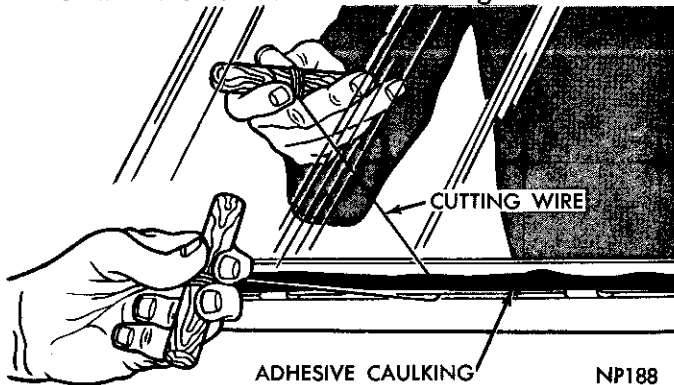

Fig. 3—Cutting Adhesive Caulking
(3) Secure one end of a two foot length of tempered steel wire (.028 gauge max.) to a wooden handle.
(4) Insert other end of wire through adhesive at lower corner of window and secure to another wooden handle.
(5) With an assistant, carefully cut through adhesive material by pulling wire, in a sawing motion, up one side, across top, down opposite side and across bottom (Fig. 3).
(6) With an assistant, remove glass from opening and if original glass is to be reinstalled, place on a protected surface.
(7) All old adhesive should be removed from glass and opening reveal using a putty knife or razor blade. **DO NOT use an oil base solvent to remove adhesive.**
(8) Using steel wool, remove loose flakes of adhesive and old primer from reveal. Use light air pressure to clean reveal and surrounding areas.